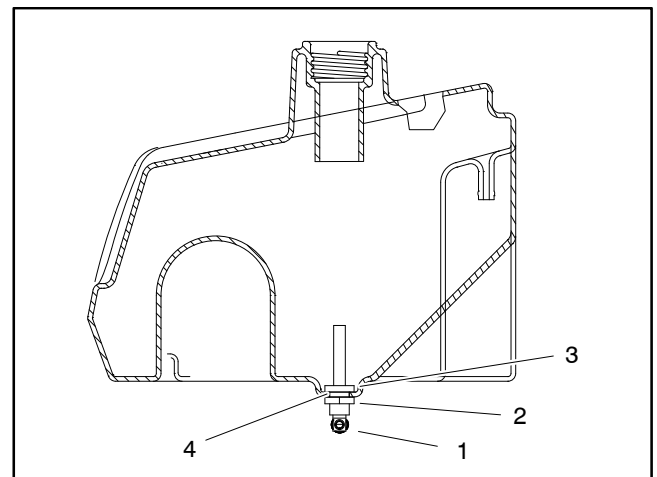

Figure 11
3. Gain access to the fasteners securing the fuel tank to the mounting plate (item 13) as follows:
- A. Remove three (3) washer head screws (item 6) that secure mounting plate to the frame and support bracket (item 31).
4. Loosen hose clamp (item 26) and disconnect fuel hose (item 8) from shut-off valve on bottom of fuel tank.
5. Remove three (3) cap screws (item 16), flat washers (item 4) and flange bushings (item 3) that secure the fuel tank to the mounting plate (item 13).
6. Loosen hose clamp (item 26) and disconnect tank vent hose (item 23) from fuel fitting (item 11).
8. If necessary, remove shut-off valve and fitting assembly from fuel tank (Fig. 11). The nut and fitting have left hand threads.
1. Install fitting assembly and shut-off valve into fuel tank if they were removed from tank (Fig. 11). The nut and fitting have left hand threads.
2. Position fuel tank to the mounting plate, connect tank vent hose (item 23) to fuel fitting (item 11) and secure with hose clamp (item 26).
- A. Apply antiseize lubricant to the threads of the three (3) cap screws (item 16).
- B. Secure fuel tank to plate with three (3) cap screws (item 16), flat washers (item 4) and flange bushings (item 3). Torque cap screws from **30 to 60 in-lb (3.4 to 6.8 N-m)**.
4. Lower mounting plate (item 13) to the frame and secure with three (3) washer head screws (item 6).
5. Connect fuel hose (item 8) to shut-off valve on bottom of fuel tank. Secure hose with hose clamp (item 26).